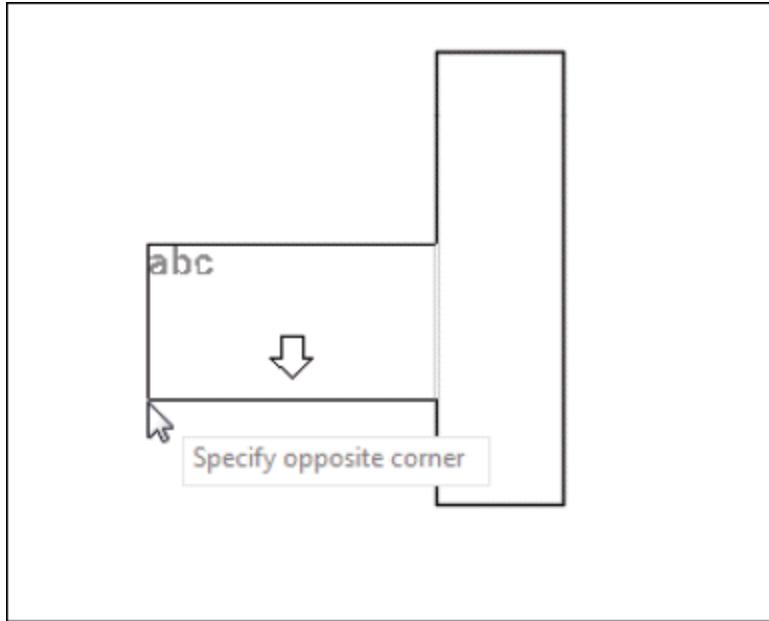
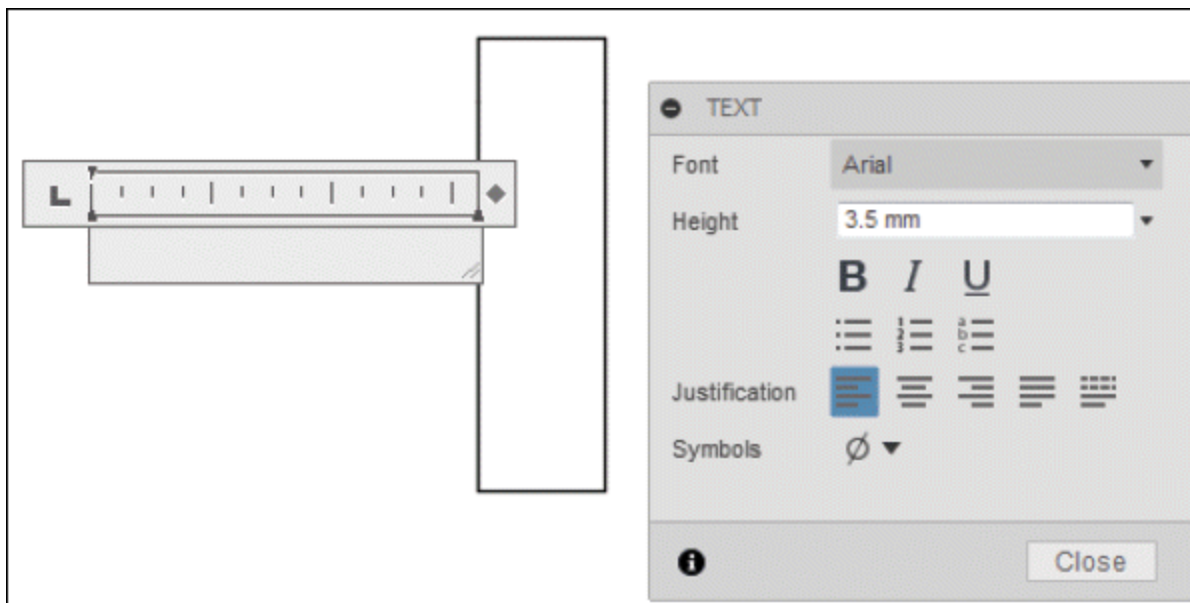

Figure-85. Specifying second corner
Figure-86. TEXT dialog box displayed
- After specifying the first corner, click on the screen to specify the second corner; refer to Figure-85. The **TEXT** dialog box will be displayed; refer to Figure-86.